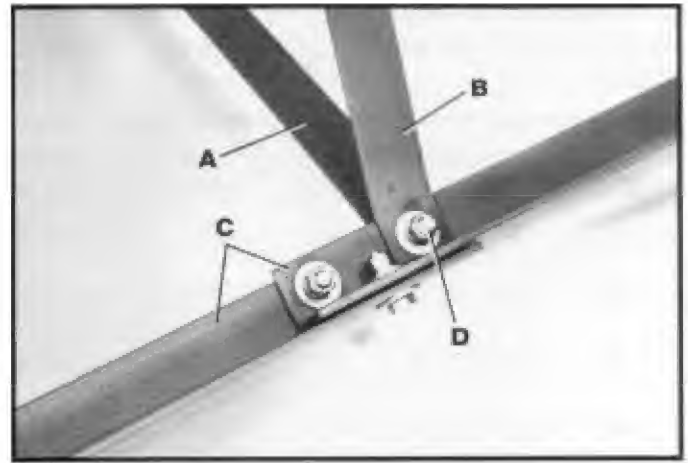

Fig. 12
**IMPORTANT:** Two support brackets (A) and (B) Fig. 12, must be assembled to a leg section (C) simultaneously for proper assembly.
1. Place one support brace (A) Fig. 12, on the outside of leg assembly (C), and brace (B) on the inside of leg assembly (C). Fasten support braces to leg assembly (C) with one 2 inch-long screw (D), two flat washers, lock-washer and hex nut. **NOTE:** Do not overly tighten hardware at this time. Adjustments will be necessary after unit is upright.